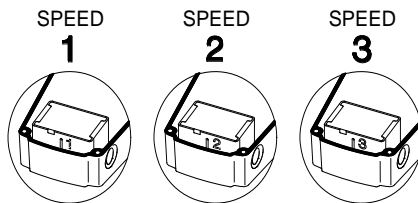

Fig. 11 Speed selection
3. Pull out the speed switch module, and insert it so that the number of the required speed is visible through the window in the terminal box. See fig. 11.